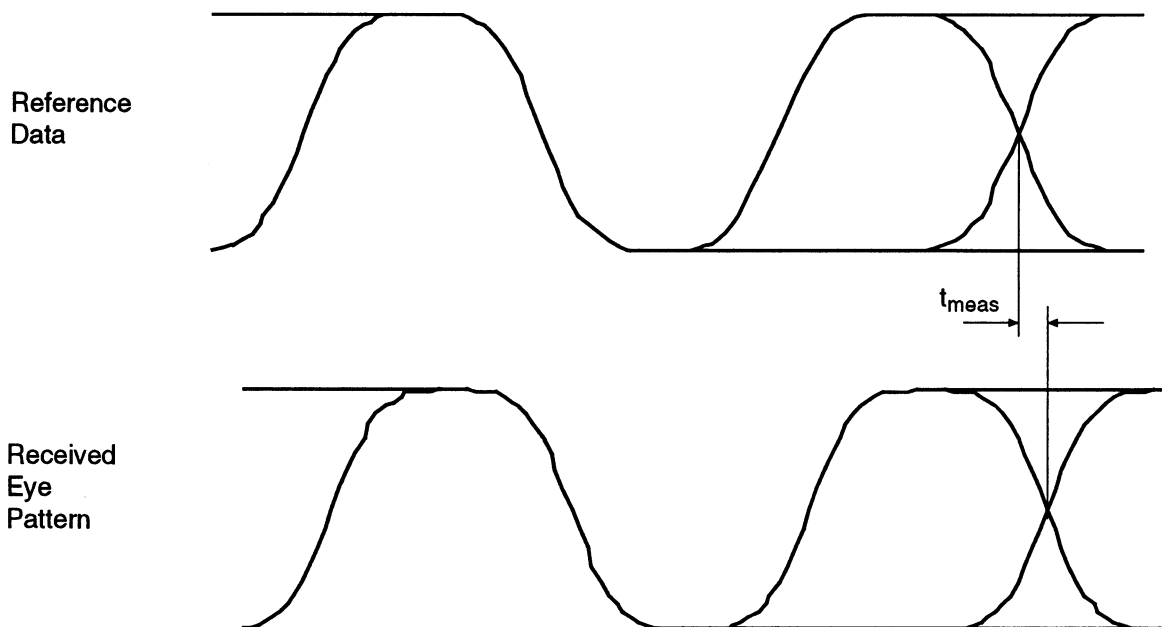

Figure 34. Two-Level Time Delay Measurement #3
- Step 35. Adjust the scope timebase so you can observe one "X" (zero cross) on each scope trace. See Figure 34. The scope timebase should be set to about 20 μ s/div.
Step 36. Adjust the delay in the reference until the "Xs" (zero crosses) of the two scope traces are in perfect alignment (within 2.6 μ s of one another). Refer to Figure 34.
- p. To display the pattern as shown in Figure 34, adjust the vertical and horizontal SCALE knobs.